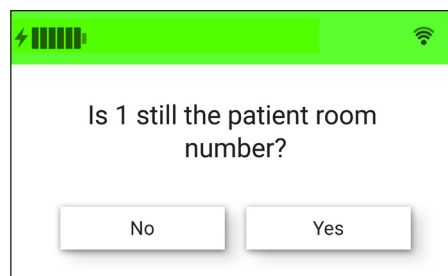

Figure 31. Validate patient room number screen
1. Whenever the Guardian 2 System is plugged in, it will prompt the user to validate the current patient room number. (Fig. 31)